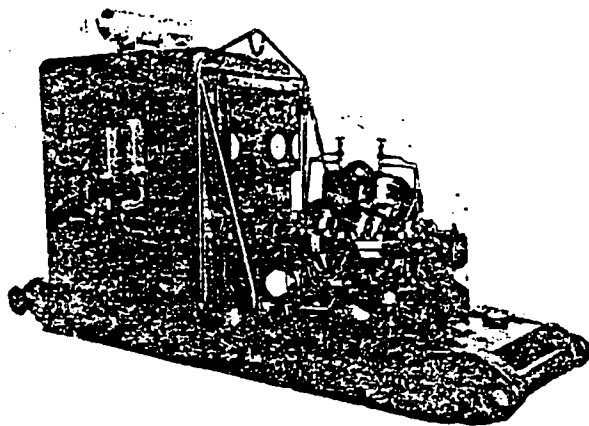

Figure 3-14. A 4-inch, four-stage pumping unit.
a. *Four-Inch, Four-Stage Pumping Unit.* The 4-inch, four-stage pumping unit consists of a gasoline-engine power unit and a four-stage centrifugal pump (fig. 3-14 and 3-15). This pumping unit is designed for use with 4- and 6-inch pipelines. However, it will be replaced by the six-inch multistage diesel driven pump in six-inch pipelines. Operating at 1,800 revolutions per minute (rpm), the unit will pump 785 BPH of 0.725 specific gravity gasoline against a 463-foot dynamic head (Glossary). Operating characteristics are found in figure 3-16. The powerplant and pump are briefly described below.